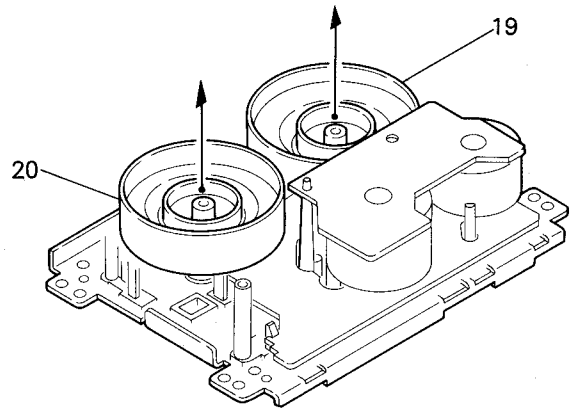

Fig. 7-26
6. Disengage the belt (38) and pull out the flywheels (19, 20). (Fig. 7-26, 7-27)